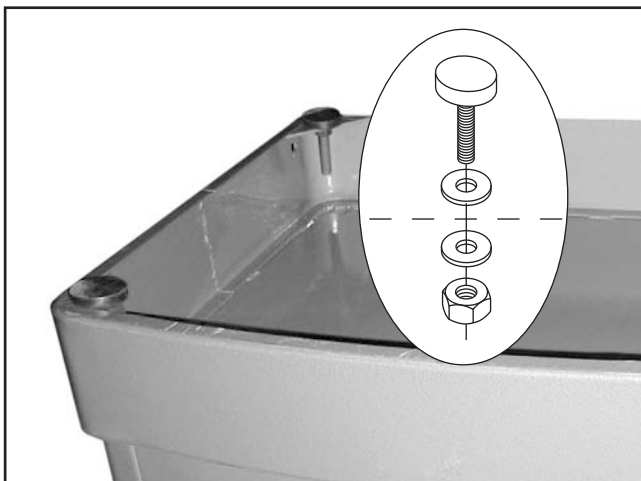

Figure 8. Mounting feet installed onto the cabinet stand.
2. Place one $\frac{3}{8}$ " flat washer onto each of the four mounting feet, then insert the studs of the feet through the four mounting holes (see **Figure 8**).